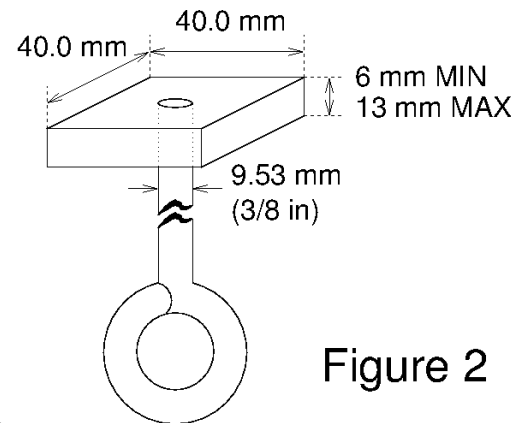
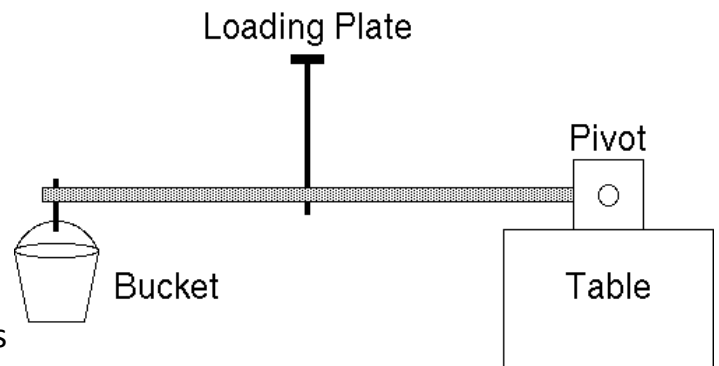

Figure 2
Figure 3
- The load will be applied downward, from below, by means of a 40.0 mm square plate (see Figure 2) resting on the loading plane of the bridge. The plate will be no more than 10. mm thick and will have a 9.53 mm (3/8 inch) diameter eyebolt attached from below at its center. Force will be applied to the loading plate by means of an apparatus shown schematically in Figure 3.